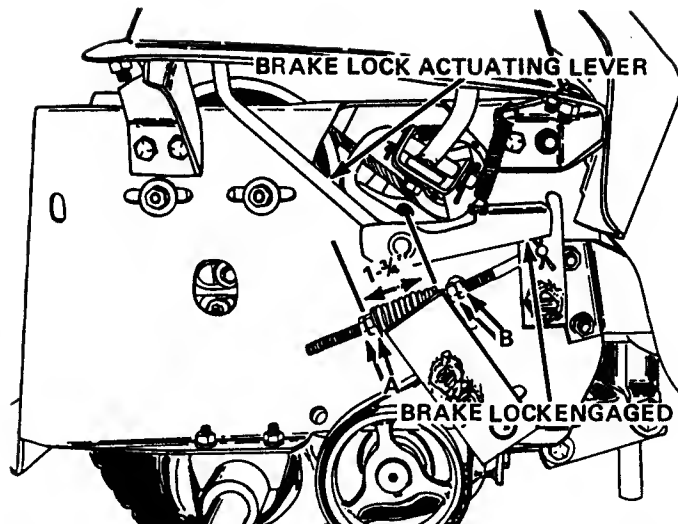

Figure 26
**NOTE: Figures 26 and 27 show the right rear tractor tire removed for clarity and for easier access to the brake adjustment.**
2. Tighten nuts A, Figure 26, until the compression spring measures 1 1/4 inch.